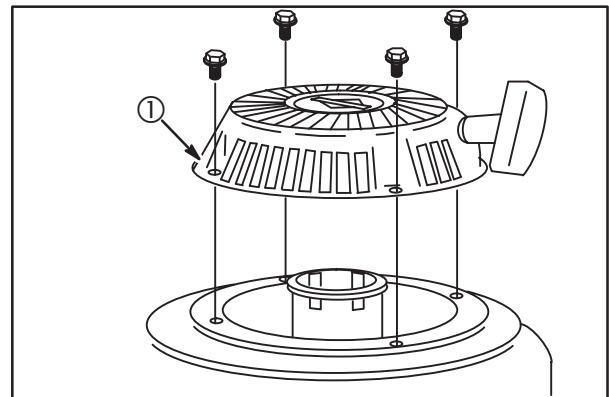

Fig. 50
1. Remove four screws and rewind starter (1), **Fig. 50**.